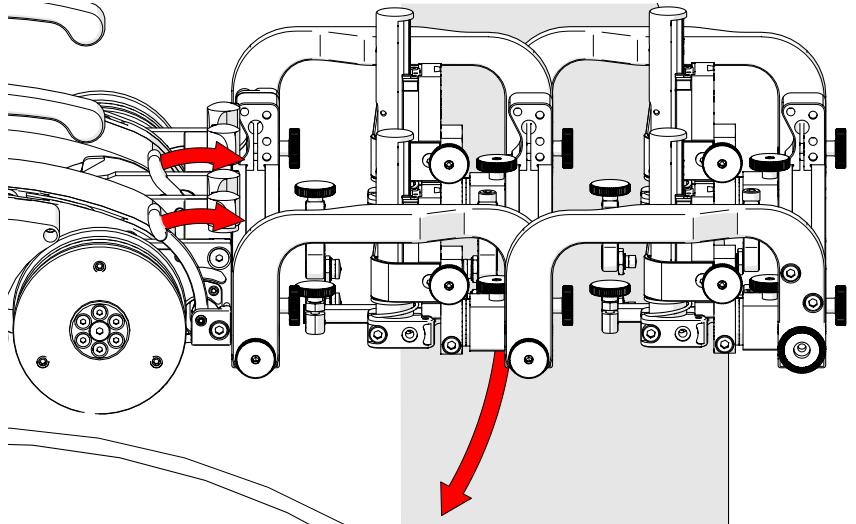

Fig. 227 - Align swivel mount with scan surface
3. Mount the probe holder frame to the crawler (see *Swivel Mount* on page 46 for additional details). When mounting the probe holder frame, ensure the attachment knobs (Fig. 227) are at the front (non crawler side).
4. Release the two swivel mount levers (Fig. 227) to position the swivel mount parallel to the scan surface (Fig. 228). When alignment with scan surface is achieved, lock the crawler swivel mount levers.